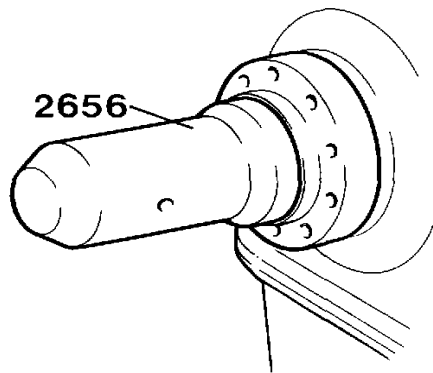

Fig. 74. Fitting the polygon hub
- Warm the polygon hub to approx. 100°C (212°F). Knock the hub quickly onto the journal using drift 2656, fig. 74.